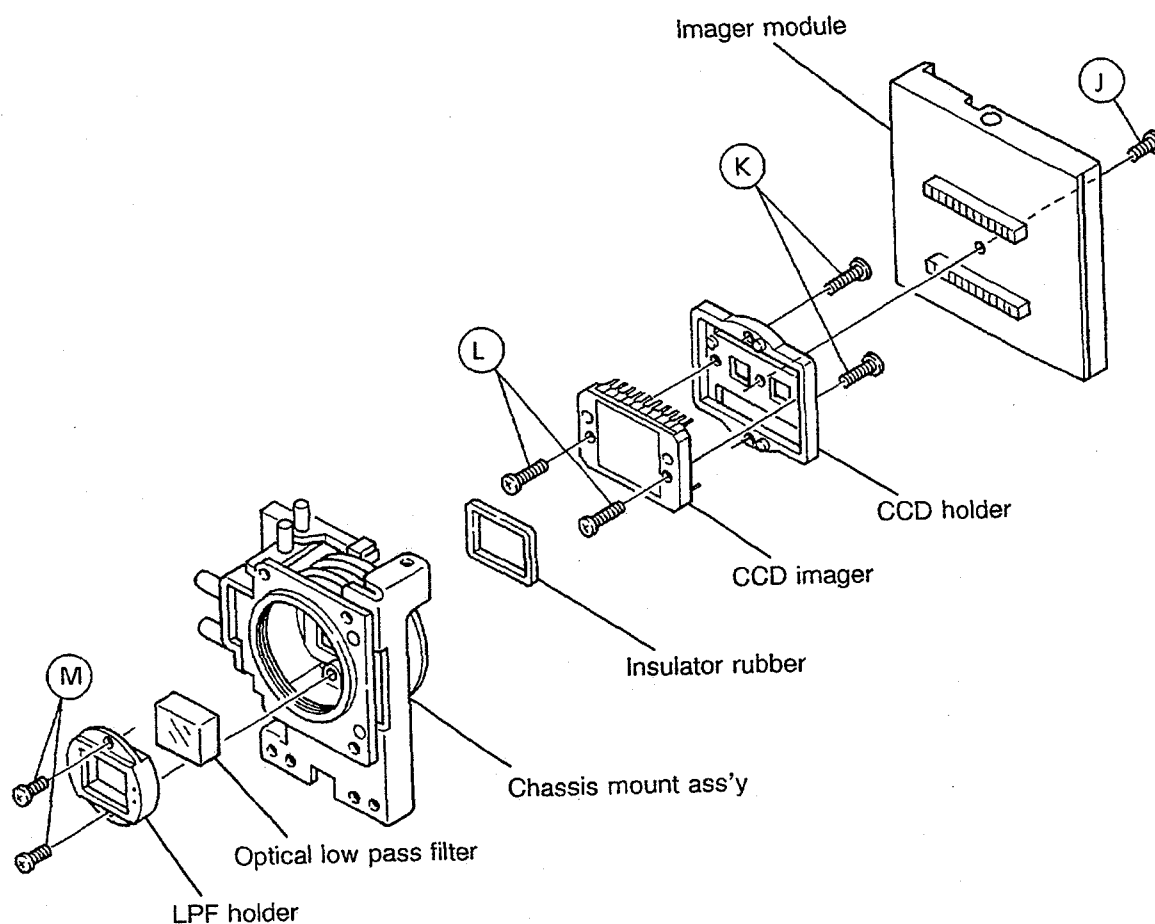

Fig. 3
- (1) Remove the imager part from the chassis according to "2-4 Removing the chassis mount"
- (2) Remove the screws of ㉠ shown in Fig. 3 and take out the shield insulator from the imager board.
- (3) Remove the imager module. (It can be removed by pulling out/in the IC socket of the CCD.)
- (4) Remove the two screws of ㉡ shown in Fig. 3 and remove the CCD holder.
- (5) Remove the two screws of ㉢ shown in Fig. 3 and remove the CCD imager. Take care at this time not to miss the insulator rubber.
- (6) Remounting after replacement can be accomplished by performing the above procedure in reverse.
- (1) The LPF holder can be removed by removing the dust cover and the two screws of ㉣ shown in Fig. 3, then the optical low pass filter can be removed.